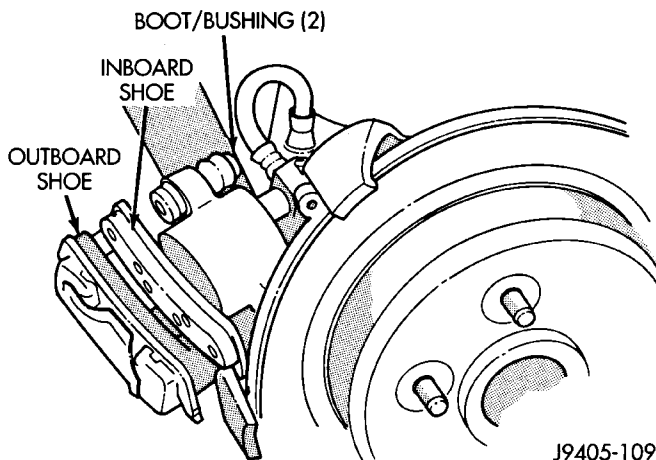

Fig. 39 Rear Caliper
- (1) Raise and support vehicle.
- (2) Remove rear wheel and tire assemblies.
- (3) Press caliper piston back into caliper bore with large Cackling.
- (4) Remove caliper mounting bolts.
- (5) Rotate caliper rearward and off rotor (Fig. 39). Support caliper with wire attached to nearby suspension component. **Do not allow brake hose to support caliper weight.**
- (6) Press one corner of outboard shoe inward then pry shoe upward with suitable tool and rotate shoe out of caliper.
- (7) Pry inboard shoe outward until shoe retainers come out of caliper piston. Then remove shoe from caliper.